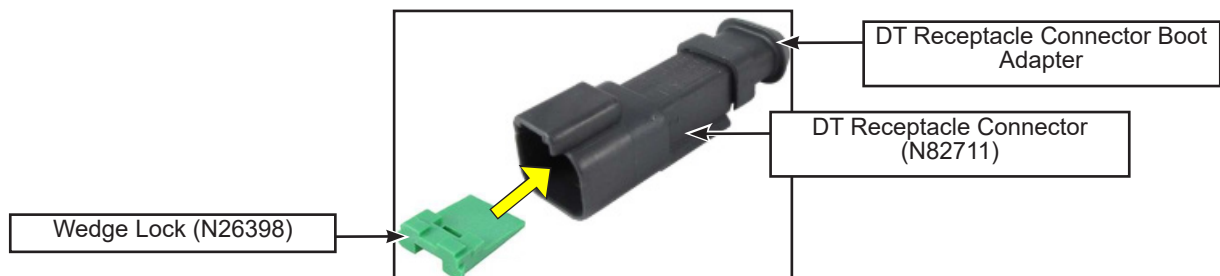

Figure 17 - Wedge Lock Insertion into Deutsch DT Receptacle Connector
- 1.31. Insert the WHITE wire terminal into position 1 and the RED wire terminal into position 2 of the DT receptacle connector PN N82711. Insert the wedge lock PN N26398 into the DT receptacle connector (see figure 17).